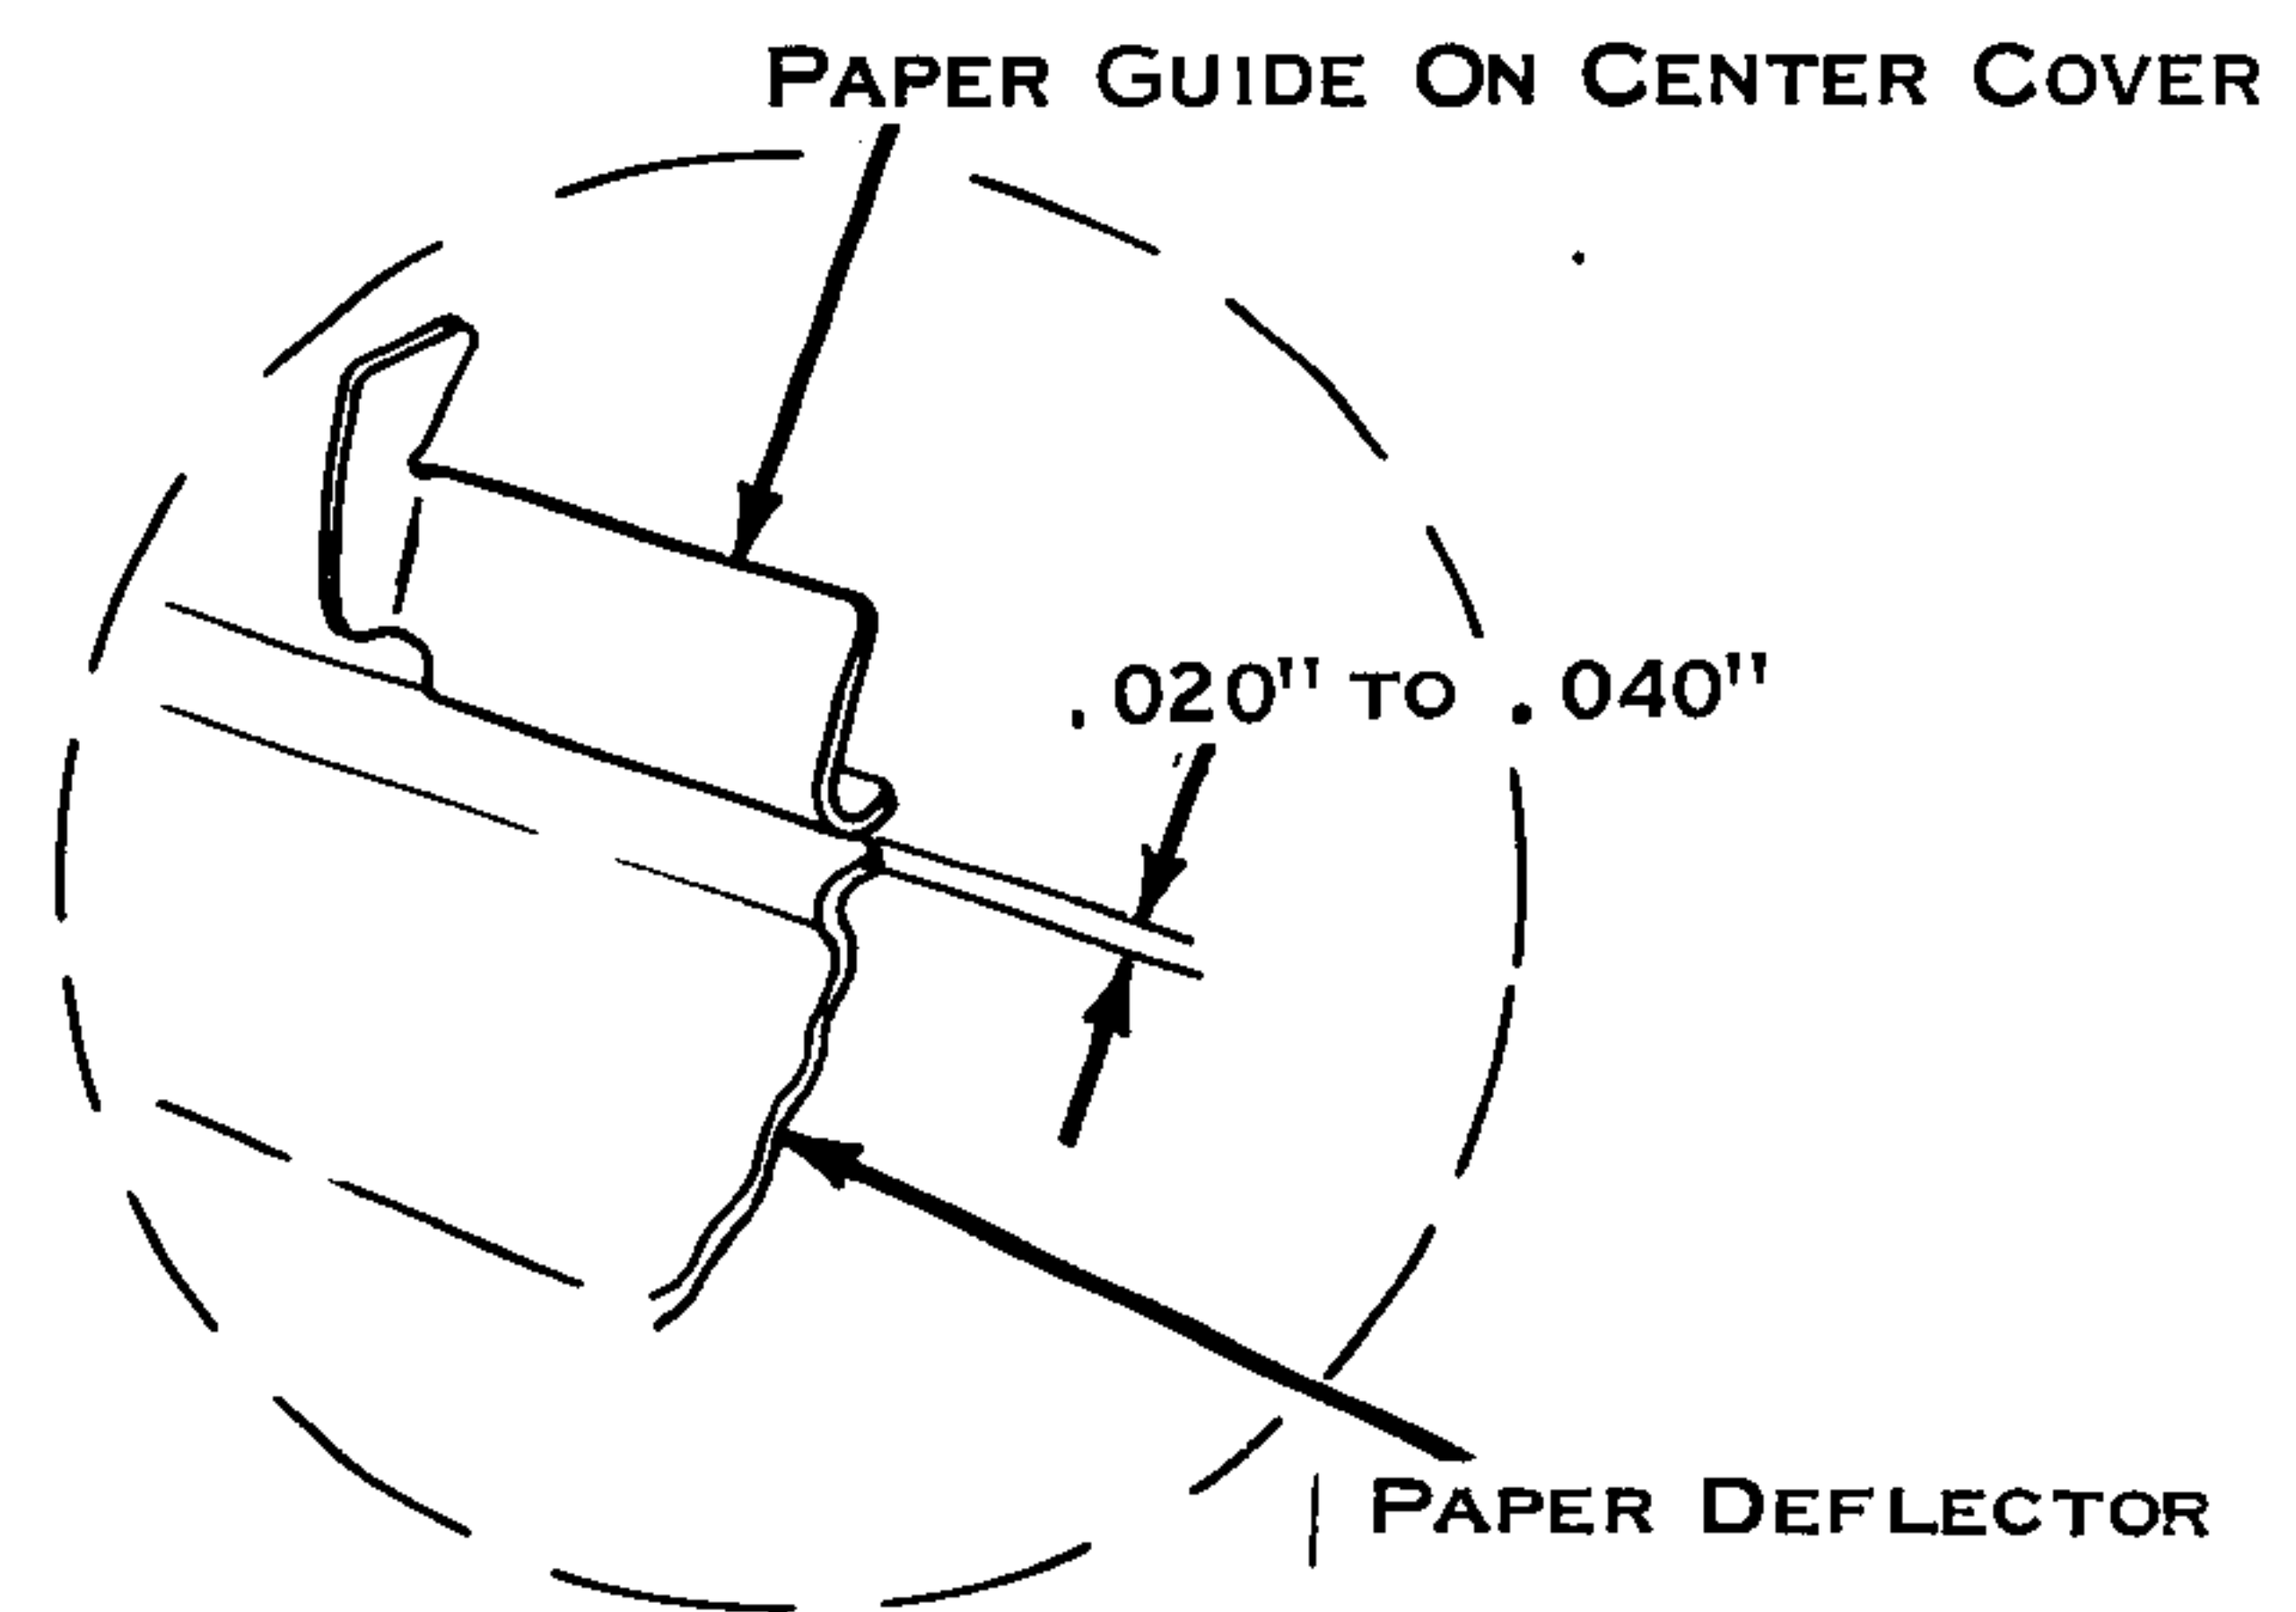

Figure 224. Shock Mounts
4. Shock Mounts (Fig. 224) - Position so that the keybuttons have equal clearance on all sides, a clearance of .020" to .040" exists between the paper guide and deflector, and the top of the spacebar is 1-1/2" above the parting line of the cover. The platen should clear the covers when it is in the extreme front and rear positions. Adjustment should be checked when the machine is suspended in the covers.